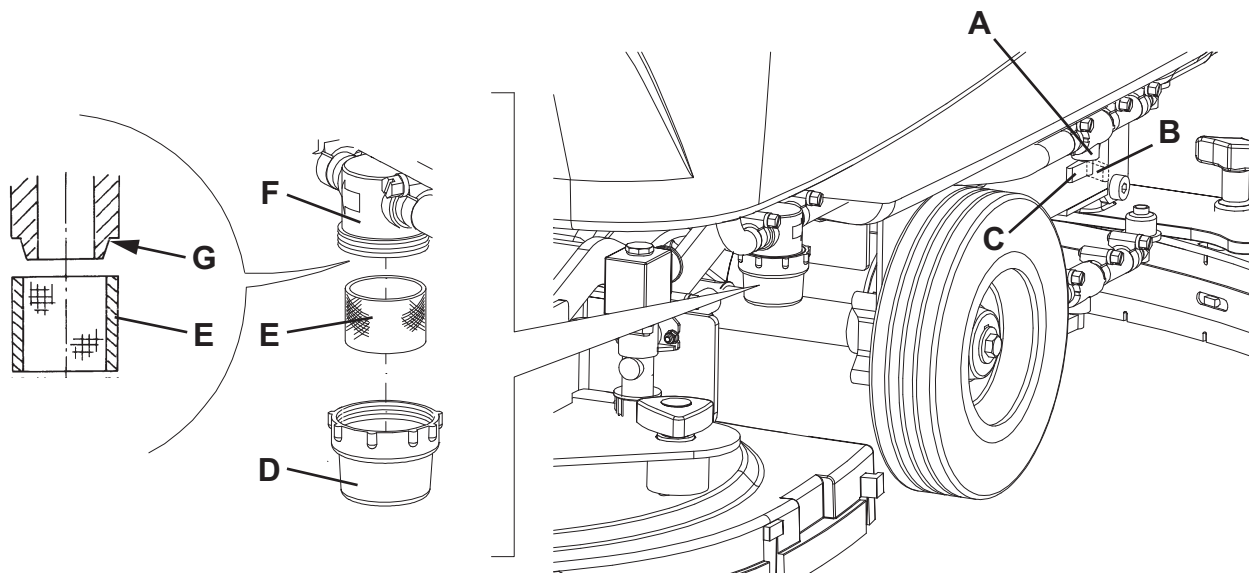

Figure 7
3. Close the solution tap (A, Fig. 7) under the machine, behind the right rear wheel. The tap (A) is closed when it is in the position (B) and it is open when it is in the position (C).
4. Remove the transparent cover (D), then remove the filter strainer (E). Clean and install them on the support (F).